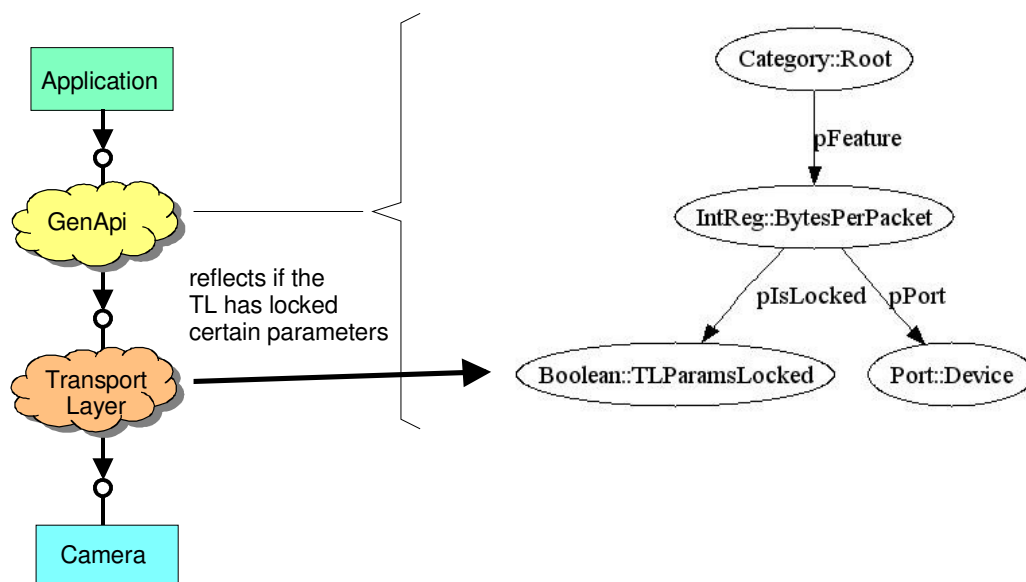

Figure 6 Locking a feature
The solution within GenApi is to provide a floating *Boolean* node *TLParamsLocked* (see Figure 6). The *BytesPerPacket* links to this node with a *pIsLocked* link. The transport layer (TL) needs to reflect its DMA status by updating the value of the *TLParamsLocked* node. Before it sets up the DMA, it locks the respective camera parameters (e.g., *BytesPerPacket*) by setting *TLParamsLocked* to true, and after the grab has been finished, it sets *TLParamsLocked* false again. Changing the *TLParamsLocked* node will in turn update the lock status of all dependent nodes, for example, the *BytesPerPacket* node.